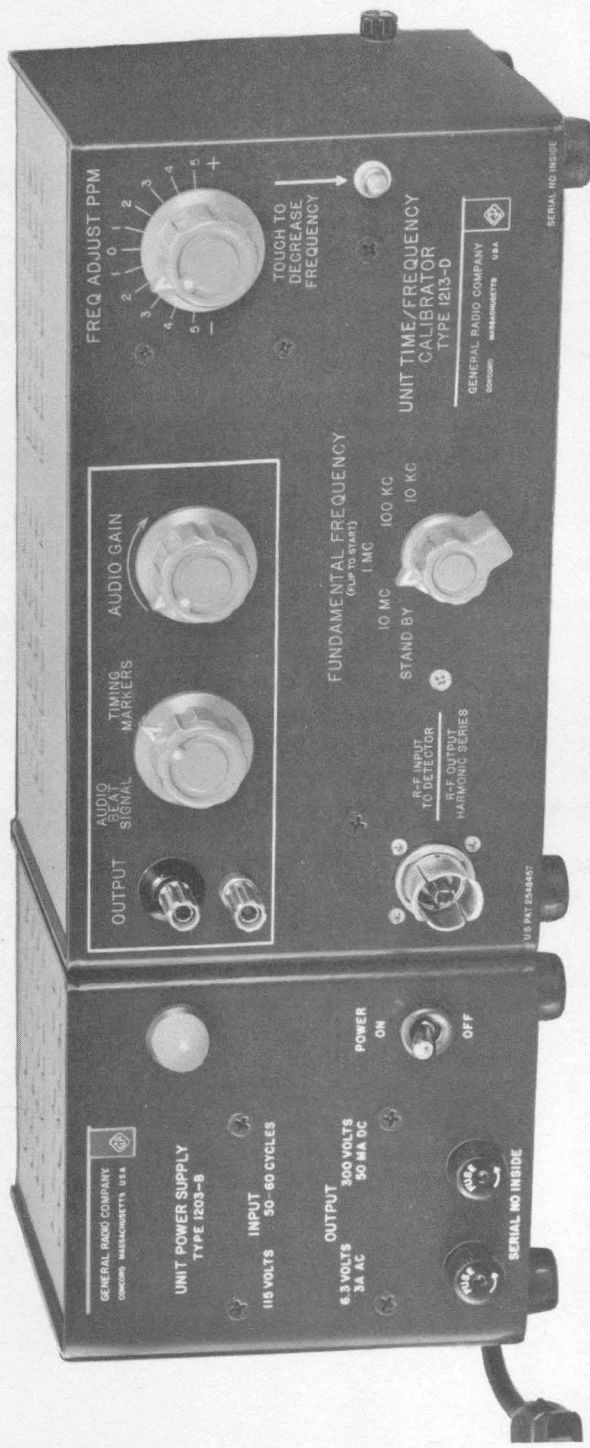

Figure 1. Type 1213-D Unit Time/Frequency Calibrator with Type 1203-B Unit Power Supply.
**1.1 PURPOSE.** The Type 1213-D Unit Time/Frequency Calibrator (Figure 1) comprises, in a small, unit-type case, a stable secondary frequency-time standard useful in the frequency calibration of oscillators, receivers, and other wide-range devices at frequencies up to 1000 Mc. It can also be used for the sweep-time calibration of oscilloscopes at intervals from 0.1 to 100 microseconds.